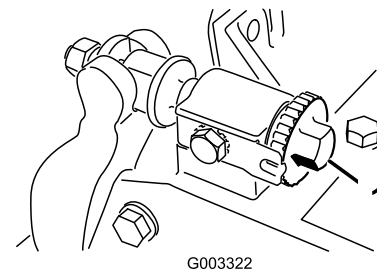

Figure 20
1. Loosen reel to bedknife contact by turning the bedknife adjusting knobs (Figure 20) counterclockwise until no contact exists.